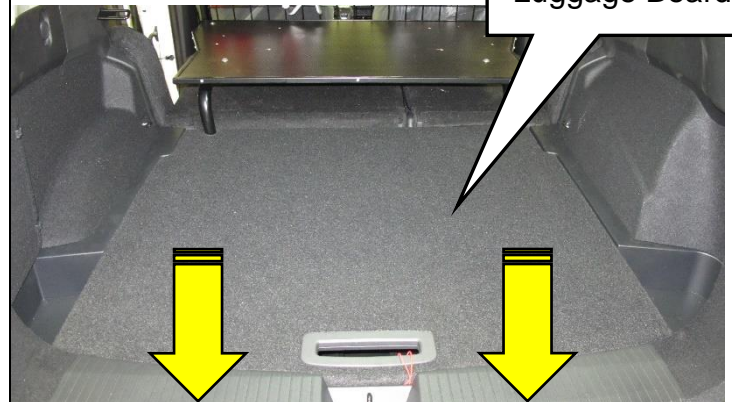

Figure 11
- Lift the rear up and pull out toward the rear of the vehicle (Figure 11)